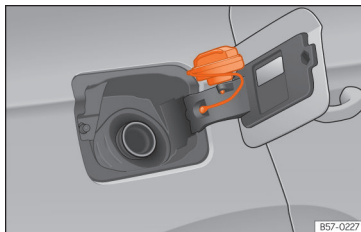

Fig. 61 Fuel tank flap with tank cap attached.
- Place it in the space on the hinge of the open flap »» Fig. 61.